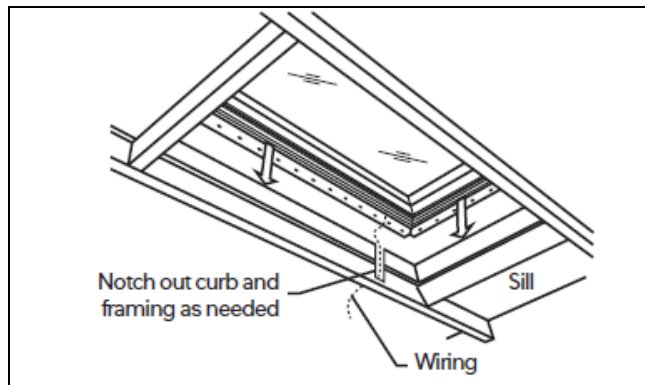

Figure 57
1. Prepare the framing for electrical wiring. See Figure 57.